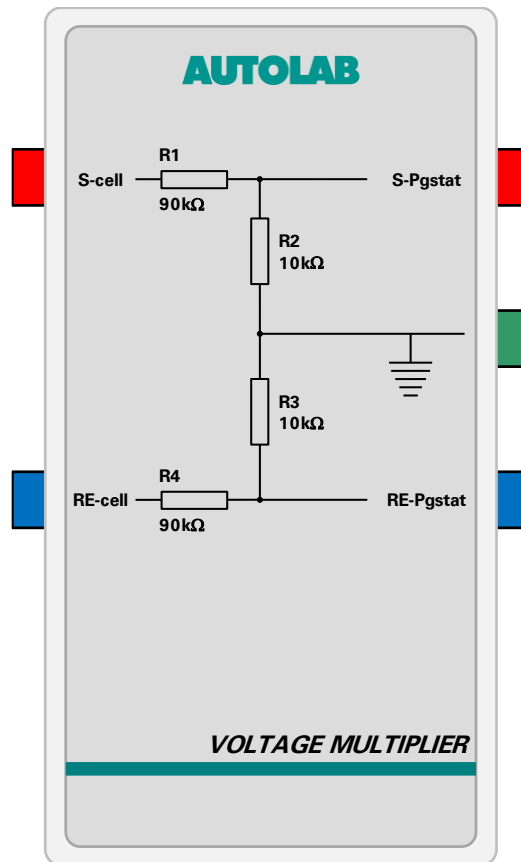

Figure 10 – The Voltage Multiplier
1. The Voltage Multiplier box (see Figure 10)